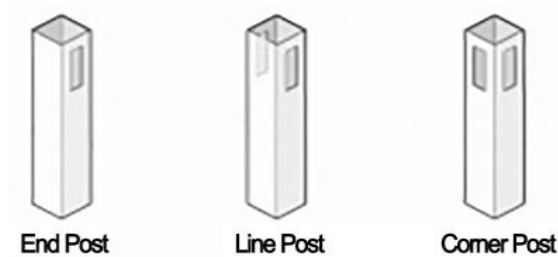
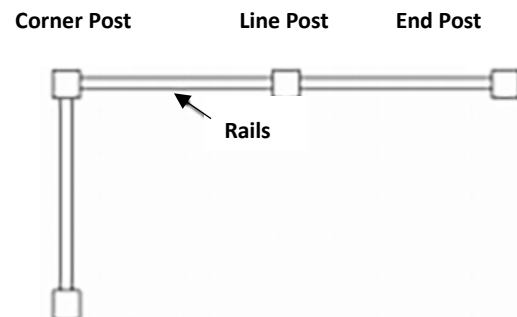

Fig. 2
Fig. 3
- There are 3 styles of posts needed to complete your project (Fig. 2 & Fig.3). Line Post, Corner Post, and End Post.